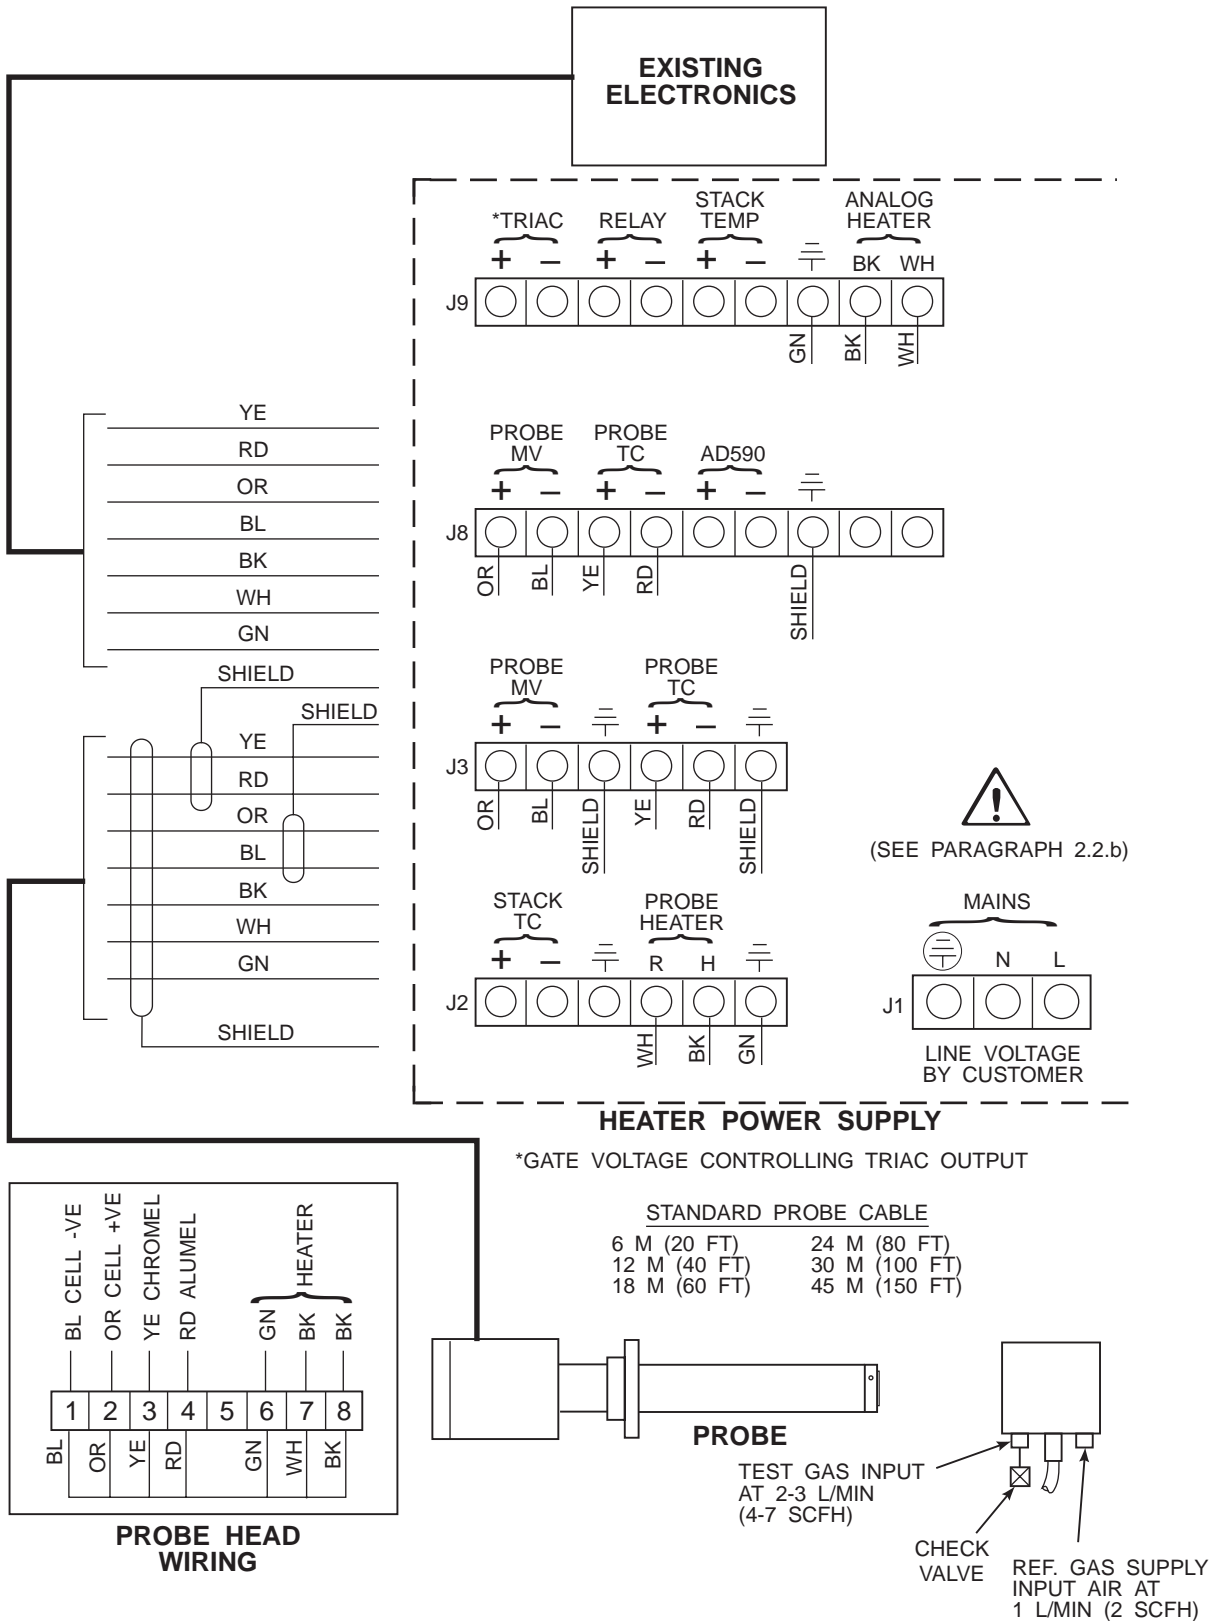
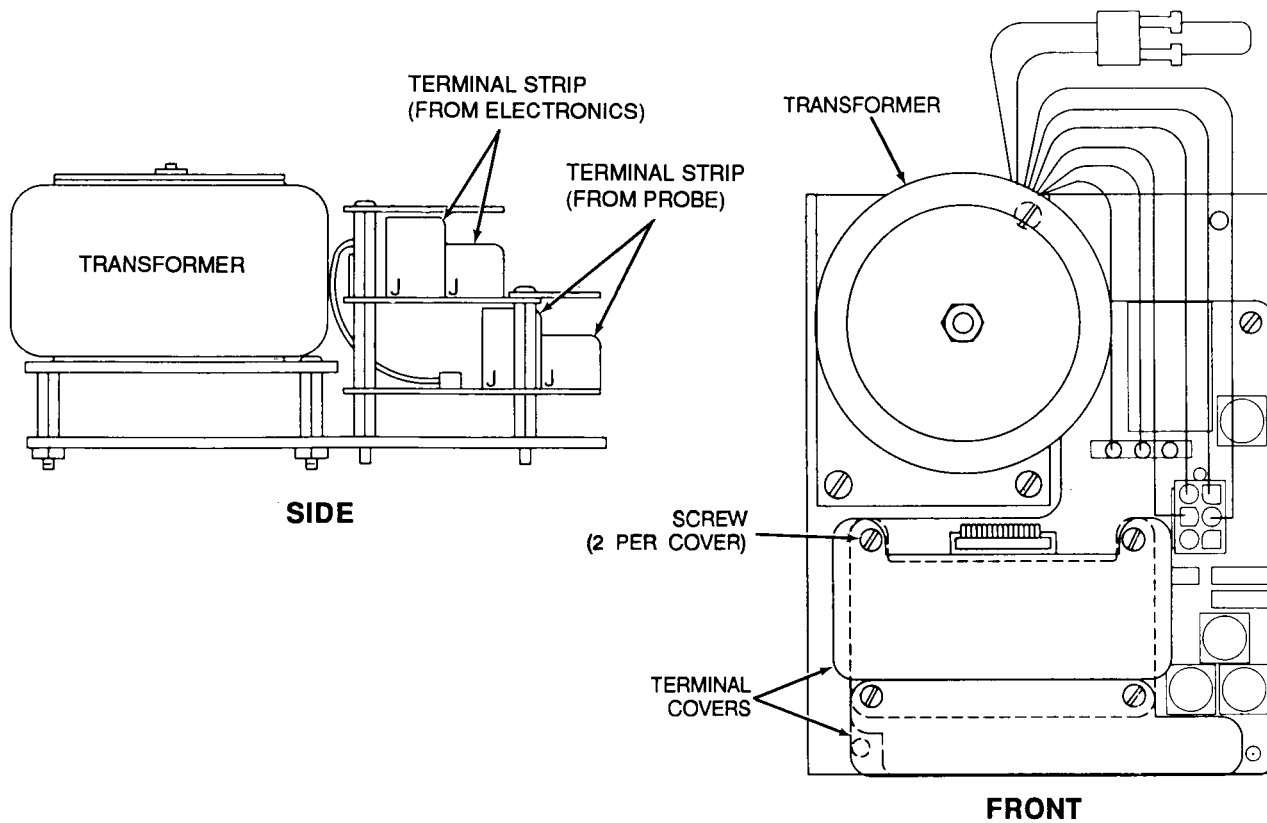

Figure 2-4. Electrical Installation of Heater Power Supply
Figure 2-5. Heater Power Supply Wiring Connections
1. Electrical connections should be made as described in the electrical installation diagram, Figure 2-4. The wiring terminals are divided into two layers; the bottom (FROM PROBE) terminals should be connected first, the top (FROM ELECTRONICS) terminals should be connected last (Figure 2-5). Each terminal strip has a protective cover which must be removed when making connections. To remove the terminal covers, remove two slotted screws holding the cover in place. Always reinstall terminal covers after making connections.